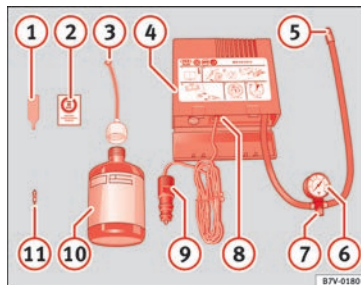

Fig. 162 Standard representation: contents of the tyre mobility system.
The tyre mobility set is located underneath the floor covering in the boot. It includes the following components »» **Fig. 162:**
- Use the enclosed extractor to unscrew the valve insert »» **Fig. 162** ① and place the valve insert on a clean surface.
- Vigorously shake the sealant bottle »» **Fig. 162** ⑩ for several seconds.
- Screw the inflator tube »» **Fig. 162** ③ securely into the sealant bottle in a clockwise direction. The seal on the mouth of the bottle moves automatically.
- Remove the lid from the filling tube »» **Fig. 162** ③ and screw the open end of the tube into the tyre valve.
- Screw the valve insert into the tyre valve again with the corresponding tool »» **Fig. 162** ①.
- Securely screw the tyre inflator tube »» **Fig. 162** ⑤ of the compressor into the tyre valve.
- Check whether the air bleed screw »» **Fig. 162** ⑦ is closed.
- Attach the connector »» **Fig. 162** ⑨ to one of the vehicle's 12 volt sockets »» **page 99**.
- Connect the air compressor with the ON/OFF switch »» **Fig. 162** ⑧.
- Keep the air compressor running until it reaches 2.0 to 2.5 bar (29-36 psi / 200-250 kPa) »» **△. Maximum operation time 8 minutes** »» ①.
Screw the inflator tube »» **Fig. 162**  again and check the pressure on the gauge .